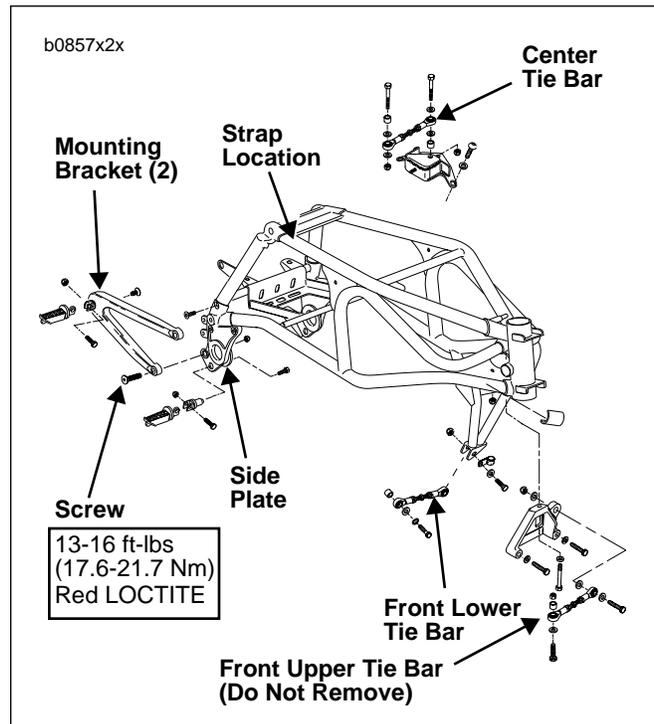

Figure 8. Frame Assembly (X1 Shown)
4. See Figure 8. Strap frame, just forward of tail section, to overhead beam or hoist and put slight tension on strap to secure frame assembly.
5. See Figure 8. Remove frame side tie bar mounting hardware from front lower and center tie bars. Leave fourth tie bar (front upper) attached to both frame and engine. Discard locknuts.
8. See Figure 8. Remove two screws, locknuts and right side passenger footrest mounting bracket from frame. Discard locknuts.
11. See Figure 8. Remove three screws, locknuts and right side plate from frame. Discard locknuts.
10. See Figure 8. Install right side plate with three screws and **new** locknuts. Tighten side plate mount screws to 16-19 **ft-lbs** (21.7 -25.8Nm).
17. See Figure 8. Install right side passenger footrest mounting bracket with two screws and **new** locknuts. Tighten screws to 13-16 ft-lbs (17.6-21.7 Nm).